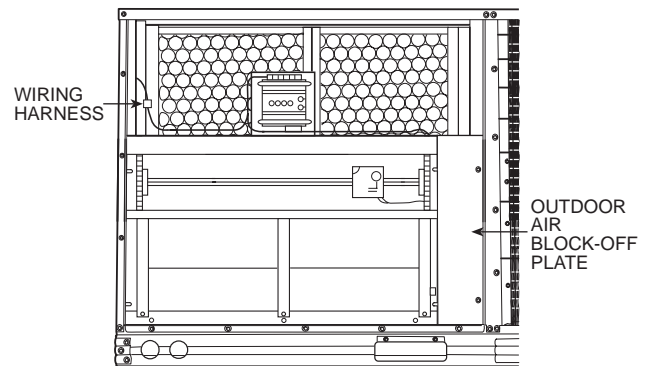

Fig. 31 — EconoMi\$er Installed
7. Install the outdoor-air block-off plate, then secure the EconoMi\$er with the screws provided. See Fig. 31.